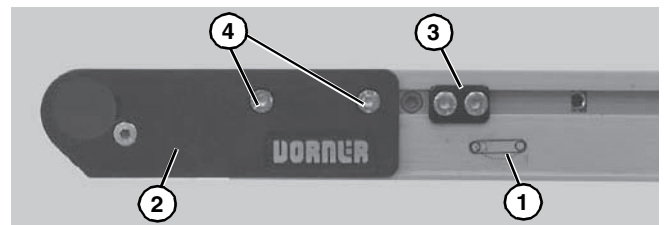

Figure 36
5. On tension end of the conveyor, identified with a  label (**Figure 36, item 1**), push in head plate assembly (**Figure 36, item 2**): On both sides of conveyor, loosen and move cam tracking assemblies (**Figure 36, item 3**) (if equipped) away from head plates, then loosen fastening screws (**Figure 36, item 4**) and push head plate assembly inward.